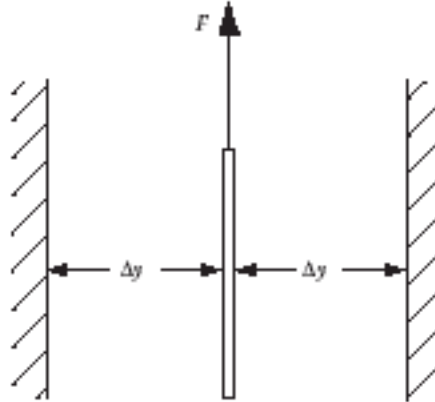

FIGURE P1.20
- 1.20 A weightless plate is moving upward in a space as shown in Figure P1.20. The plate has a constant velocity of 2.5 mm/s, and kerosene is placed on both sides. The contact area for either side is 2.5 m². The plate is equidistant from the outer boundaries with $\Delta y = 1.2$ cm. Find the force F .
- 1.23 Referring to Figure P1.20, the plate is being pulled upward in a space filled with chloroform. The plate velocity is 12 in./s and $\Delta y = 0.05$ in. The force is 2 lbf. Determine the area of contact of each side of the plate.